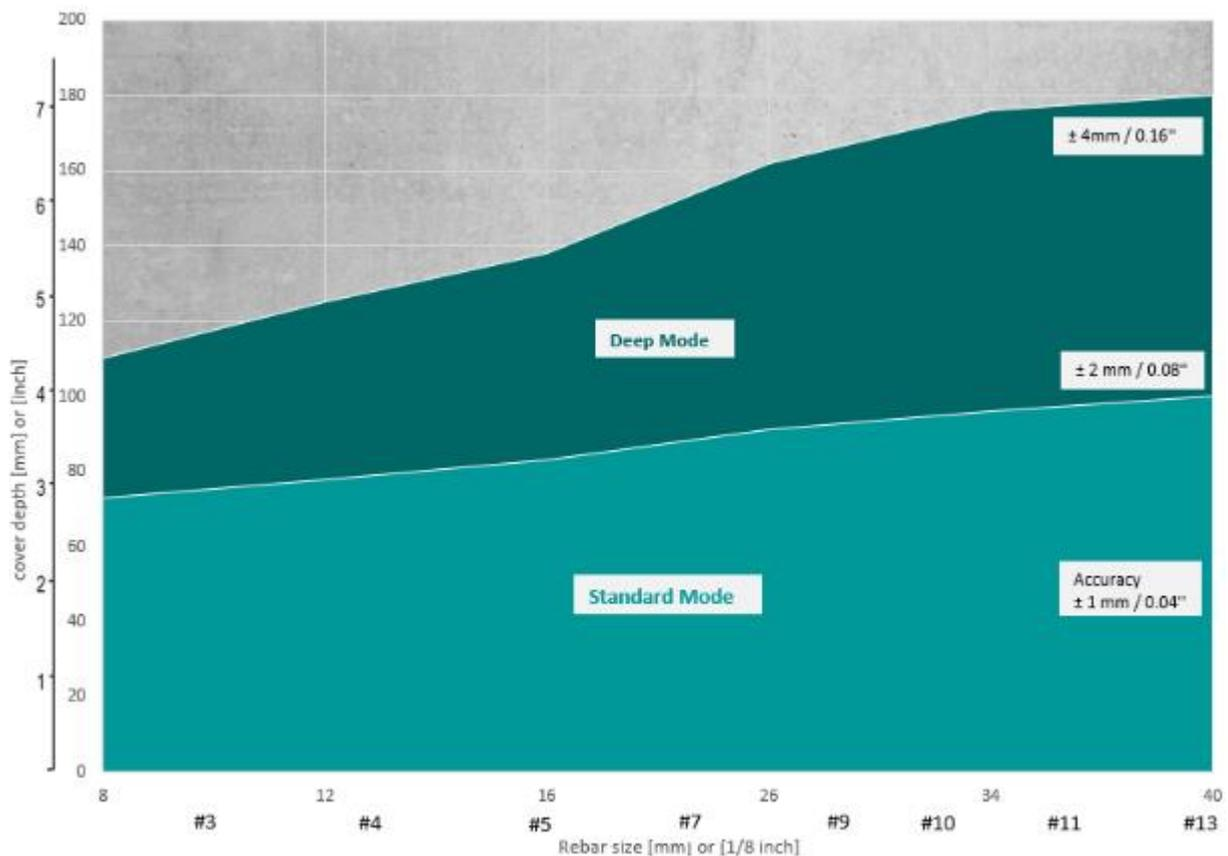

Figure 27: Measuring range without cart
- ! In deep mode, 180mm is the maximum depth limit for detection. Nevertheless, if the rebar diameter is known, the Figure 27 provides more precision on the maximum depth possible of detection following the rebar diameter.
However, 80mm limit is only an average depth limit. That is why if the rebar diameter is known, the Figure 27 provides more precision on the maximum depth possible following the rebar diameter.